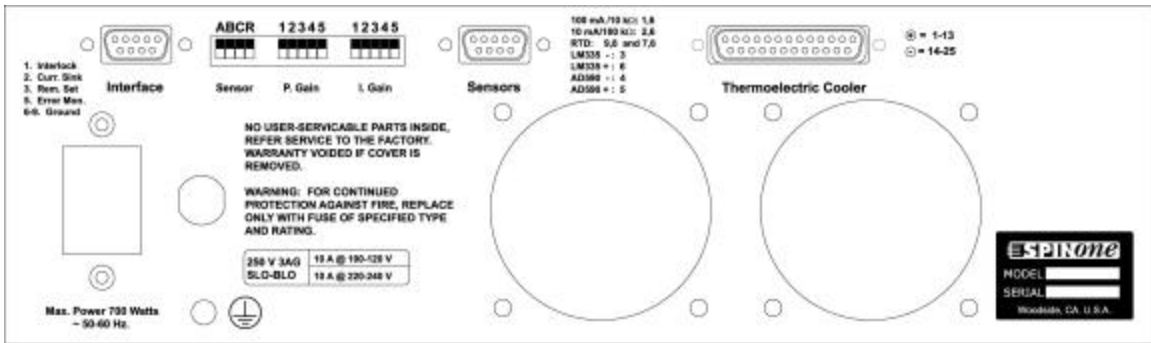

Figure 2. Rear View, Model 3001
4.1 Connect the TEC. Refer to Figure 2, “Thermoelectric Cooler”. We spent some time considering the best high-current output connector and cable assembly. We decided on a very conventional 25-pin D-Sub connector/cable assembly for several reasons: